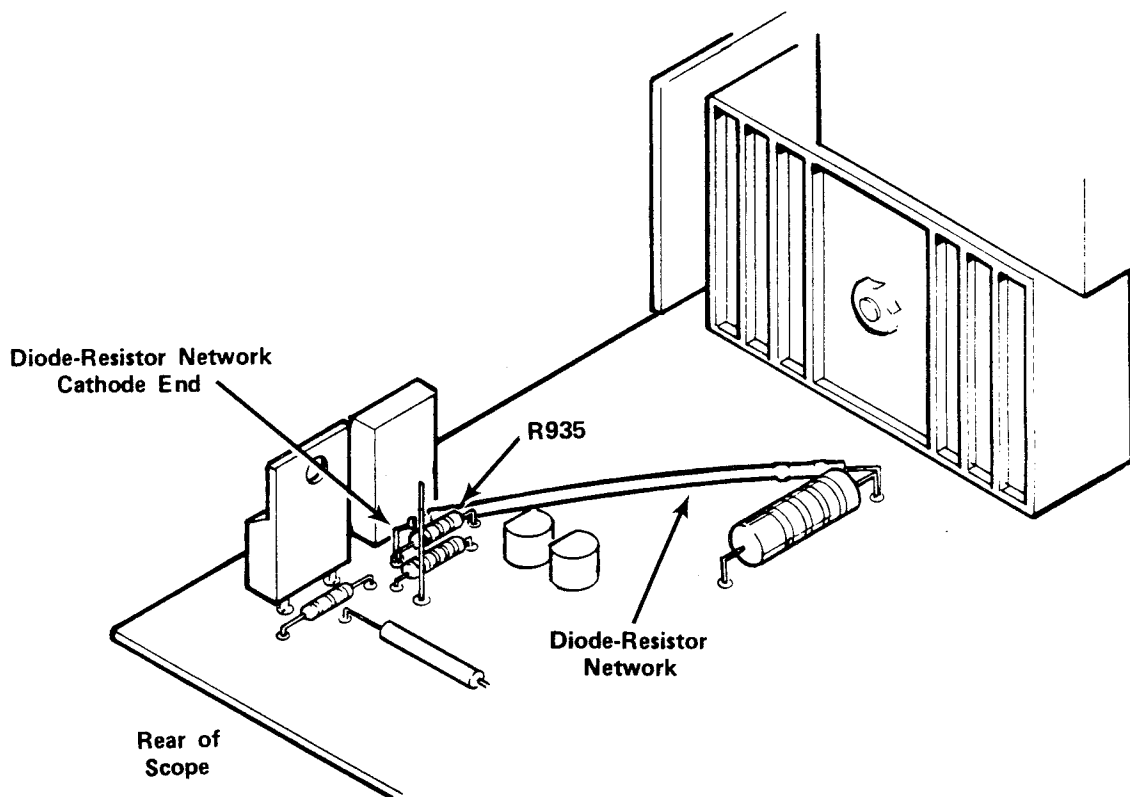

Fig. 1. Location of new diode-resistor network.
Perform step 10 only if the diode-resistor network shown in Fig. 1 is not present.
- ( ) 10. Install the diode-resistor network, included in this kit, as shown in Fig. 1. Connect the cathode lead to the lead of R935 that is closest to the rear of the instrument. Connect the resistor lead of the new network to the lead of R949 that is nearest the front of the instrument. Ensure both leads of the new network make a solid mechanical connection by installing the leads into the circuit board holes with the resistor leads or by wrapping the network leads around the resistor leads before soldering.